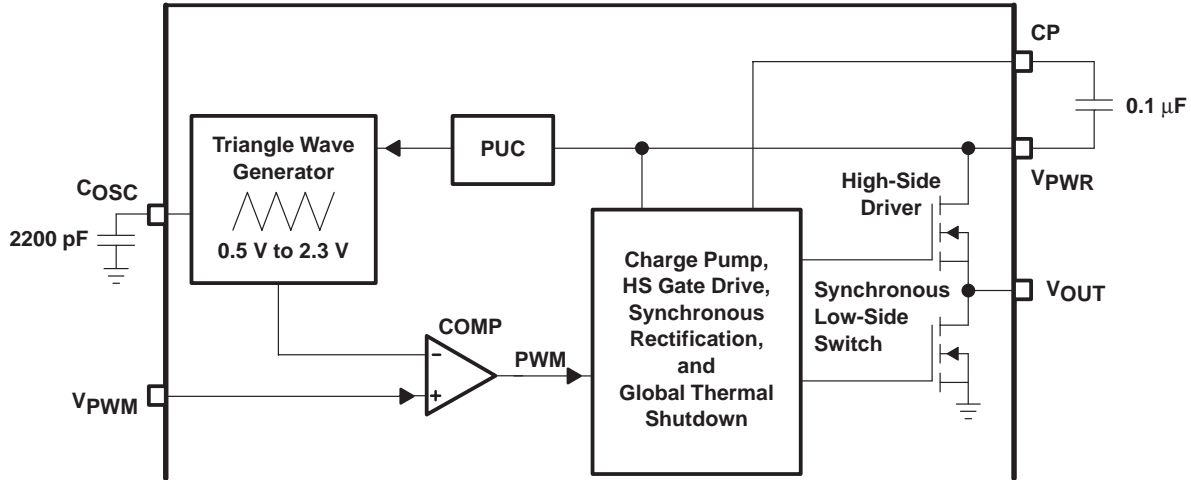
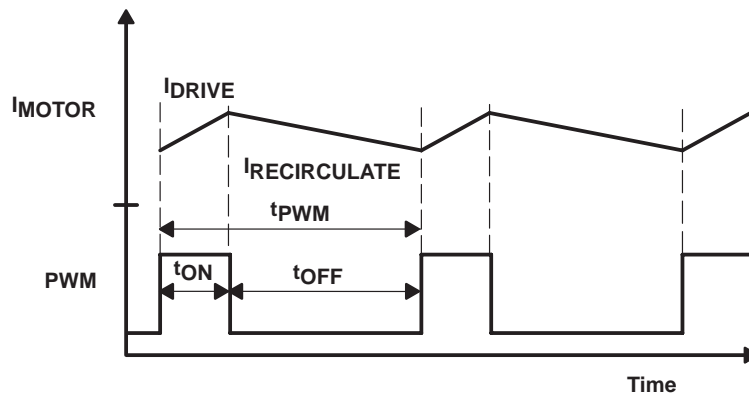

Figure 3. High-Side PWM Drive
Figure 4. Motor Current Waveform
Referring to Figure 3, V_{OUT} is a drive output to provide PWM controlled power to the common node of the motor phase windings using an internally generated PWM signal. The PWM duty cycle controls the effective drive power to the motor, and thus motor speed. The high-side V_{OUT} DMOS output transistor has a typical $R_{DS(ON)}$ of 400 m Ω at 25°C and a 1-A continuous current.
The frequency of the PWM drive (typically 23 kHz) is such that the L/R time constant of the motor phase winding filters the current. Referring to Figure 4, during the on-time (t_{ON}) of a PWM period, V_{OUT} is driven high forcing voltage across a phase winding and increasing the current. During t_{OFF} , PWM off-time, the V_{OUT} high-side DMOS is switched off, the phase winding inductive energy is recirculated, and the current decreases. To minimize the voltage drop and the resulting energy loss during recirculation, a low-side DMOS synchronous switch is provided, as shown in Figure 3. This low-side DMOS device has a 2-A minimum current limit to prevent device failures should a solder bridge occur between the adjacent V_{PWR} and V_{OUT} terminals.
THMC40 and THMC41 have an internal charge pump which utilizes an external reservoir capacitor (CP) to generate the gate-drive voltage for the V_{OUT} output high-side DMOS transistor (see Figure 3). The recommended value for CP is 0.1 μF , with a minimum rating of 35 WVdc. The charge pump is disabled during the sleep state (see the sleep/run state section) to minimize current consumption into V_{PWR} . The charge pump also incorporates internal undervoltage lockout detection used to disable V_{OUT} when the charge pump voltage does not have an adequate level above V_{PWR} to fully drive the high-side DMOS gate. Thus, the V_{CP} (UVLO), in conjunction with the charge pump start-up time, delays the V_{OUT} drive for a short time after the device has transitioned from sleep to run state, until the charge pump voltage reaches the UVLO threshold.
The voltage at the $V_{P_{PWM}}$ terminal determines the PWM duty cycle of the output ($V_{O_{OUT}}$) to control drive power to the fan motor, and thus control fan speed (see Figures 3 and 6). The $V_{P_{PWM}}$ voltage is internally compared against the 0.5-V to 2.3-V triangle waveform generated on the C_{OSC} terminal. The PWM signal output from this comparator has a duty cycle proportional to the voltage at $V_{P_{PWM}}$, as shown in Figure 6. The output of this comparator is used as the PWM input to the $V_{O_{OUT}}$ drive stage.